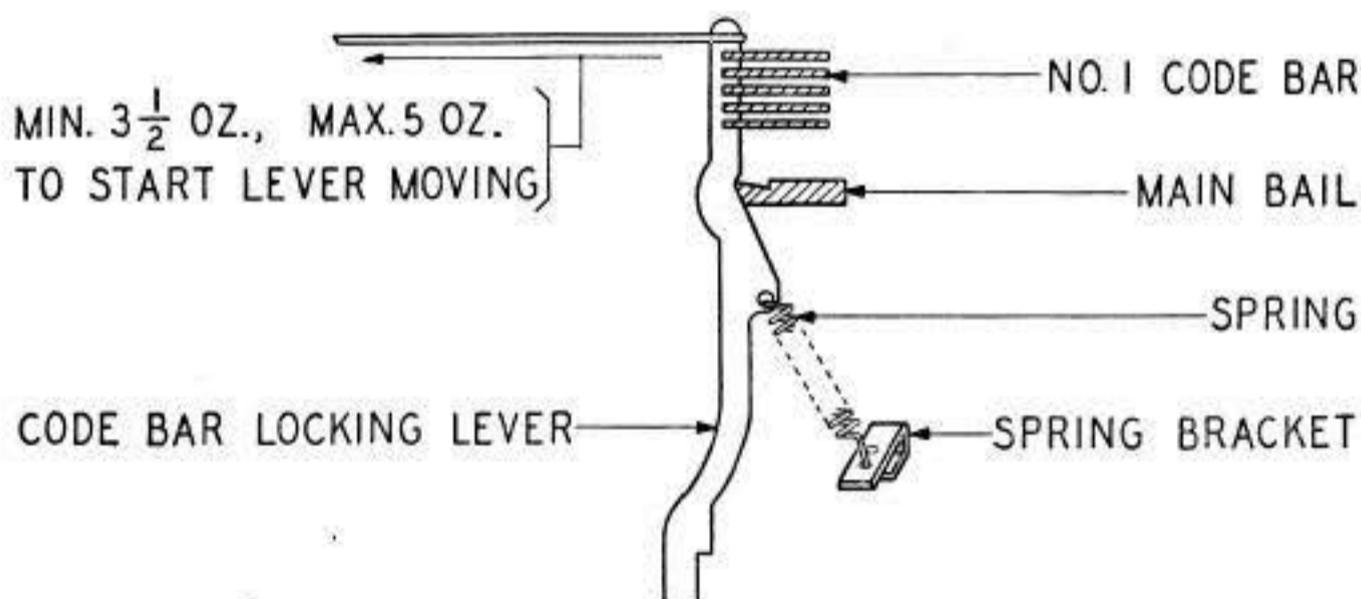

Fig. 23
2.37 **Codebar Locking-Lever Spring:** It should require a pull as indicated in Fig. 23 to just start the lever moving when the main bail is in its uppermost position and the codebar bellcranks are held away from the locking lever. **Fig. 23**